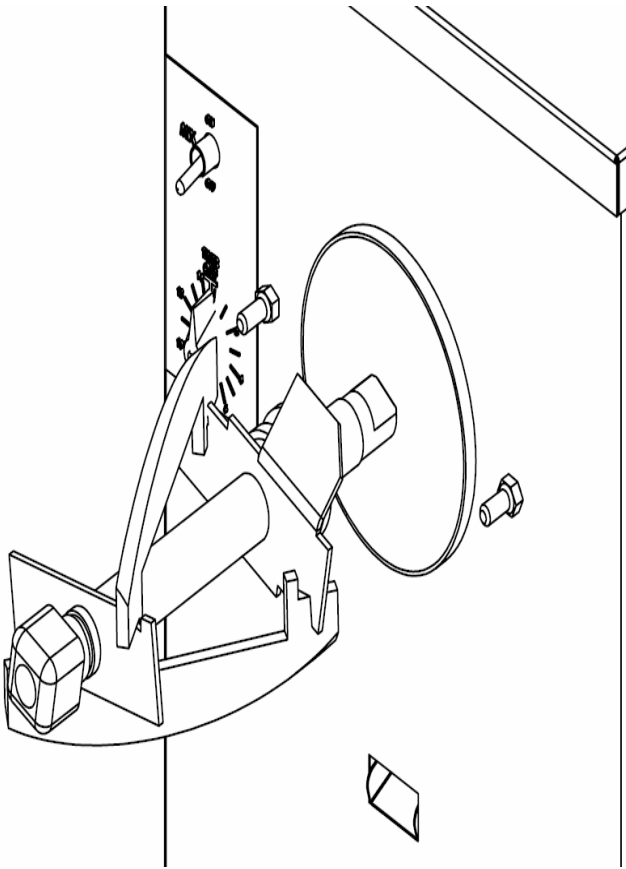

Fig. 9
e. Insert the dasher assembly into the freezing cylinder as far as possible (Fig. 9) being careful not to damage the scraper blades. Damage will occur to the scraper blades and the dispenser will not operate properly if the scraper blades are installed incorrectly.